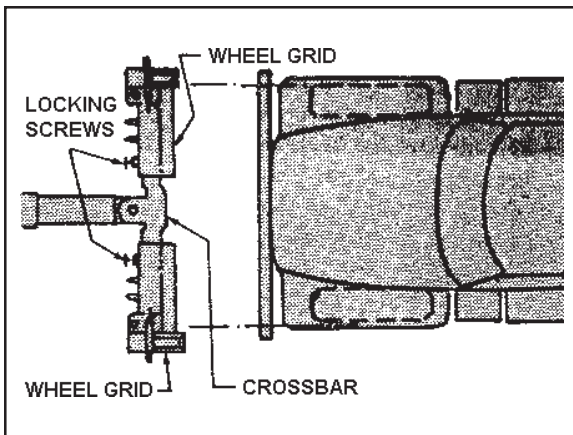

Figure 4-2.
5. Adjust the wheel grids on the cross bar to match the track width of the vehicle. Make sure the locking screws for the grids are tight. (See Figure 4-2.)